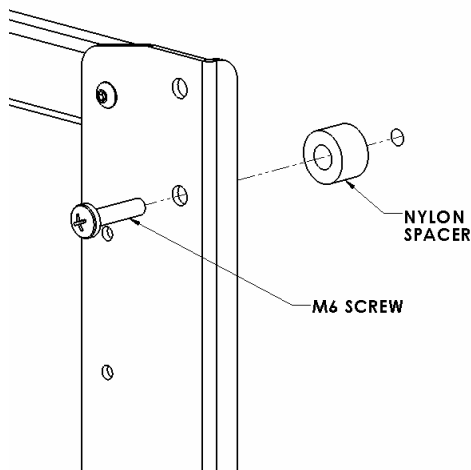
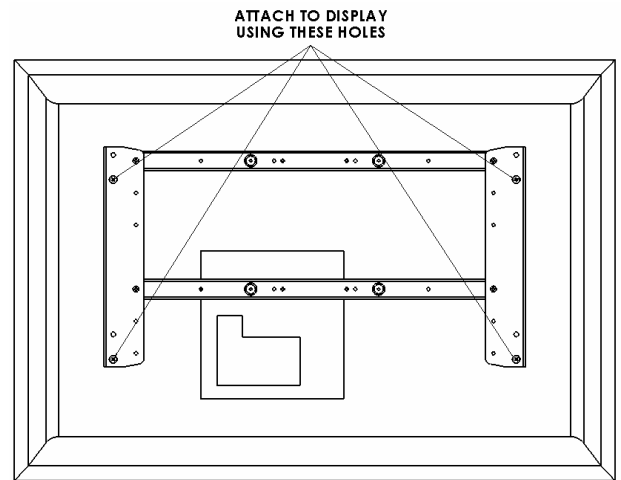

Figure 6
Figure 7
3. **Bracket Installation:** Place nylon spacers over mounting holes of screen and attach brackets to back of display using the M6 screws (see Figure 6 & Figure 7). Do not over tighten screws.